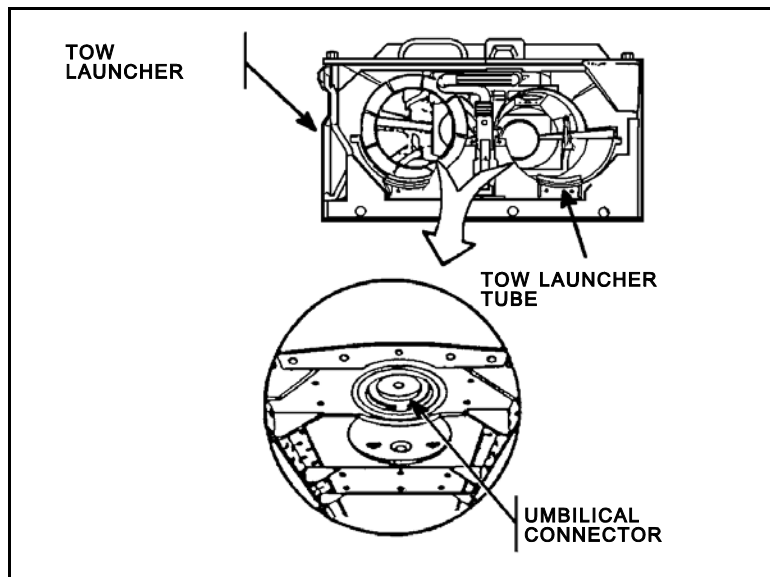

Figure 2. TOW launch tubes.
- a. Ensure the umbilical connectors do not extend down into the TOW launch tubes (Figure 2).